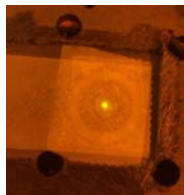

Figure 13. Image of the filament centered on the alignment cover plate target (early version).
Figure 13 shows an example theoretical response curve predicted by Mie theory for particles with the same refractive index (RI) as polystyrene latex spheres (1.588). The curve initially follows the diameter to the sixth power relationship predicted by Rayleigh scattering theory while the particle diameter is small compared to the POPS laser wavelength (405 nm). Oscillations in the curve become more pronounced and the size dependence becomes weaker for particle diameters near to and larger than the laser wavelength. The oscillations cause a reduced size resolution for particles at the upper range of the POPS.